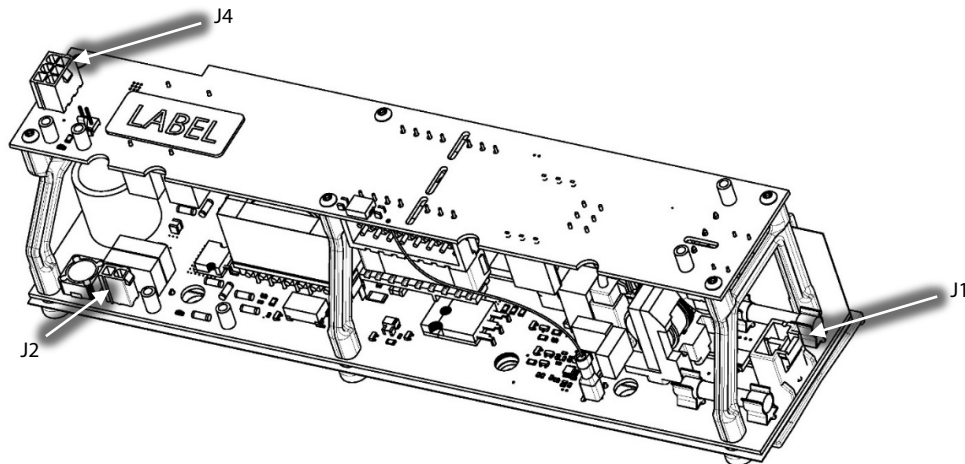

Figure 7 – Open Frame DC-DC Converter Connector Locations
1. Remove the three (3) connectors (DC Bus Input (J1), 250VDC Output (J2), and 24VDC output (J4)) from the DC-DC Converter. Refer to Figure 7 (Open Frame DC-DC Converter Connector Locations).